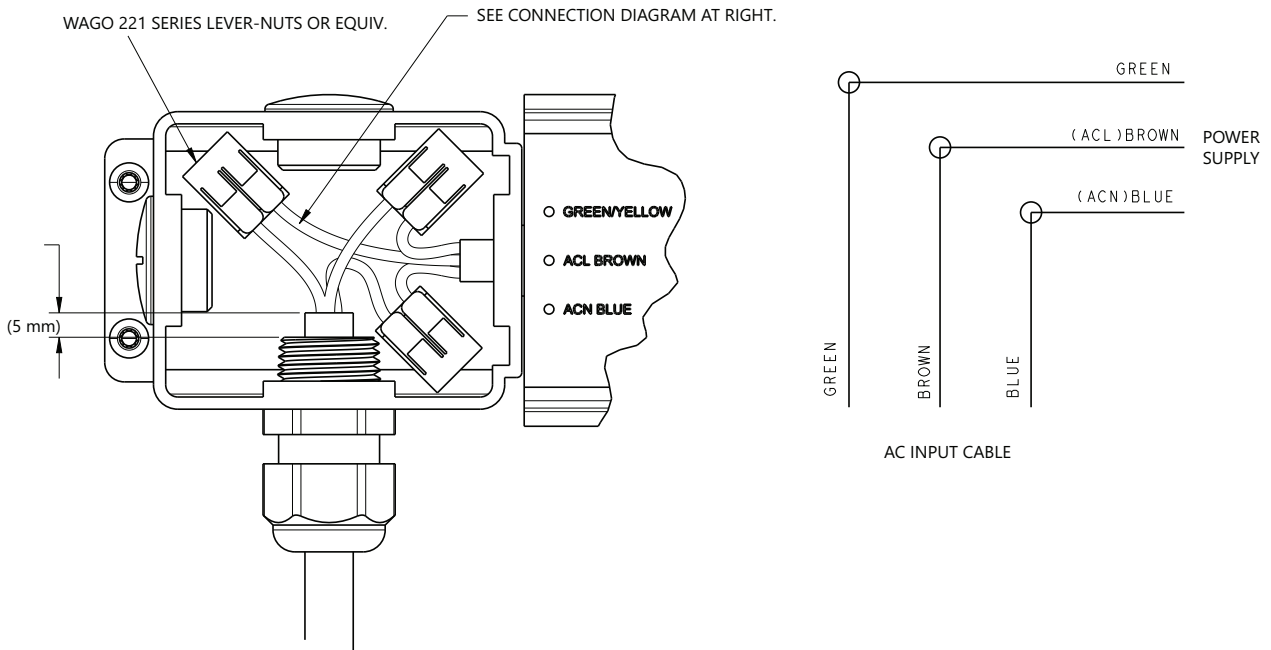

Figure 10. AC/DC Supply Cable Terminations
- 3 Terminate the cables using WAGO 221 Series Lever-Nuts or equivalent connectors as shown in Figure 10.